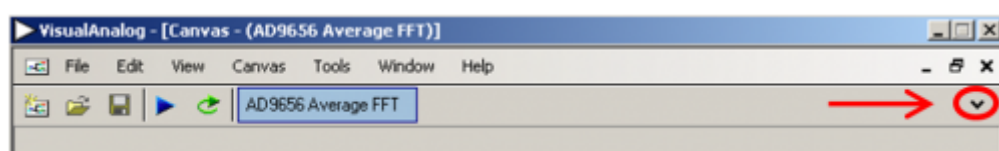
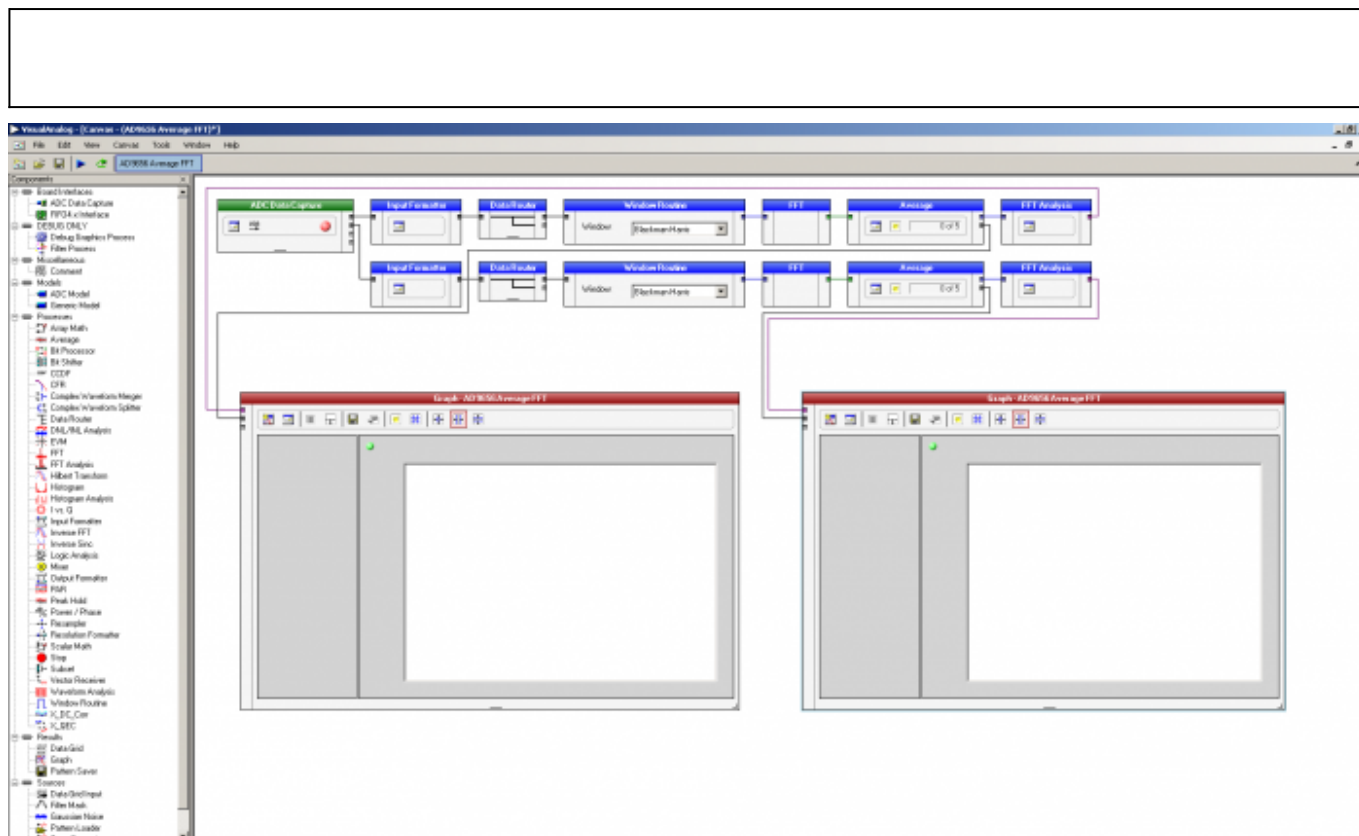

Figure 5. VisualAnalog Window Toolbar, Collapsed Display
Figure 6. VisualAnalog, Main Window Expanded Display
3. To view the canvas and associated functional blocks, click the **Expand Display** button, located on the bottom right corner of the window (see Figure 5), to see what is shown in Figure 6.